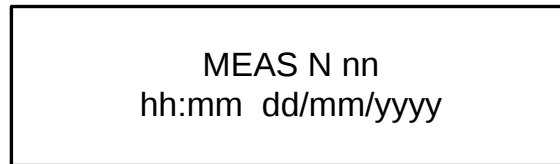

Figure 9. Menu item displaying the latest measurement information
- Menu item: **“LATEST MEASUREMENT INFORMATION”**. Timing and measurement sequential numbering: the system is provided with an internal non-volatile memory that allows all the measurements to be saved. Each of them is assigned a sequential number and each of them keeps track of the time of beginning and end of the measurement. RStone™ is able to show the sequential number and the start time of the latest measure completed or in progress. Referring to Figure 9: *nn* measurement sequential number; *hh:mm* hours and minutes of the beginning of measurement *nn*, *dd/mm/yyyy* day when such measurement began.